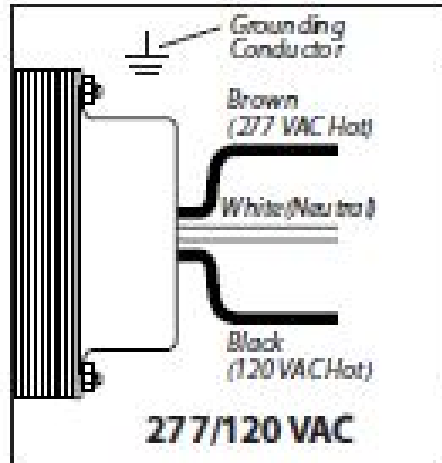

Figure 8 Transformer Termination
- 10) Terminate the transformer line/neutral wires removed from the old system to the new transformer at the top of the lower section of the relay panel. Refer to Figure 8 for transformer terminations.